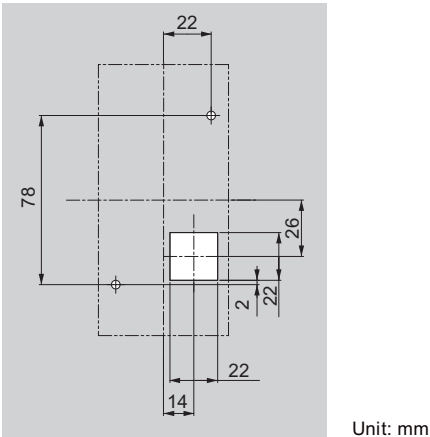

Figure 2.14 Panel Cut-Out Dimensions (External/Face-Mount Installation)
- 1. Cut an opening in the enclosure panel for the digital operator as shown in Figure 2.14.